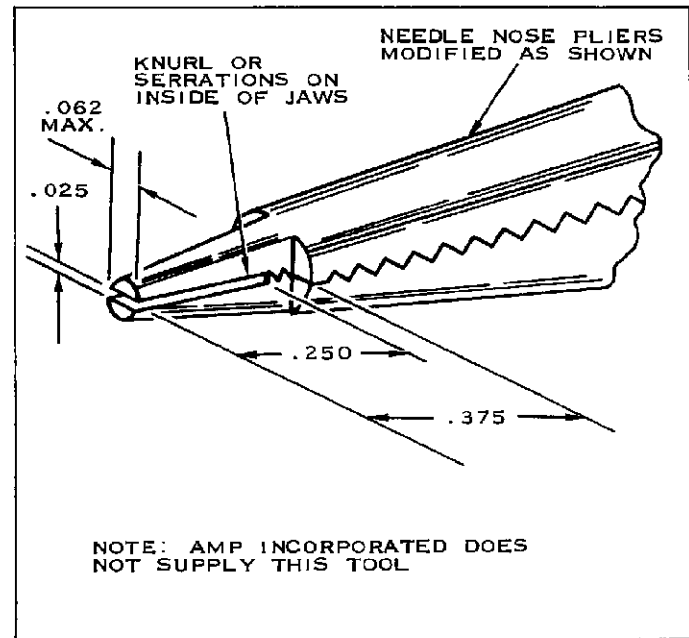

FIGURE 3
- Select a pair of modified needle-nose pliers with good gripping capability. Insert the tool into the cavity and firmly grip the Keying Plug to be removed. See Figure 3.